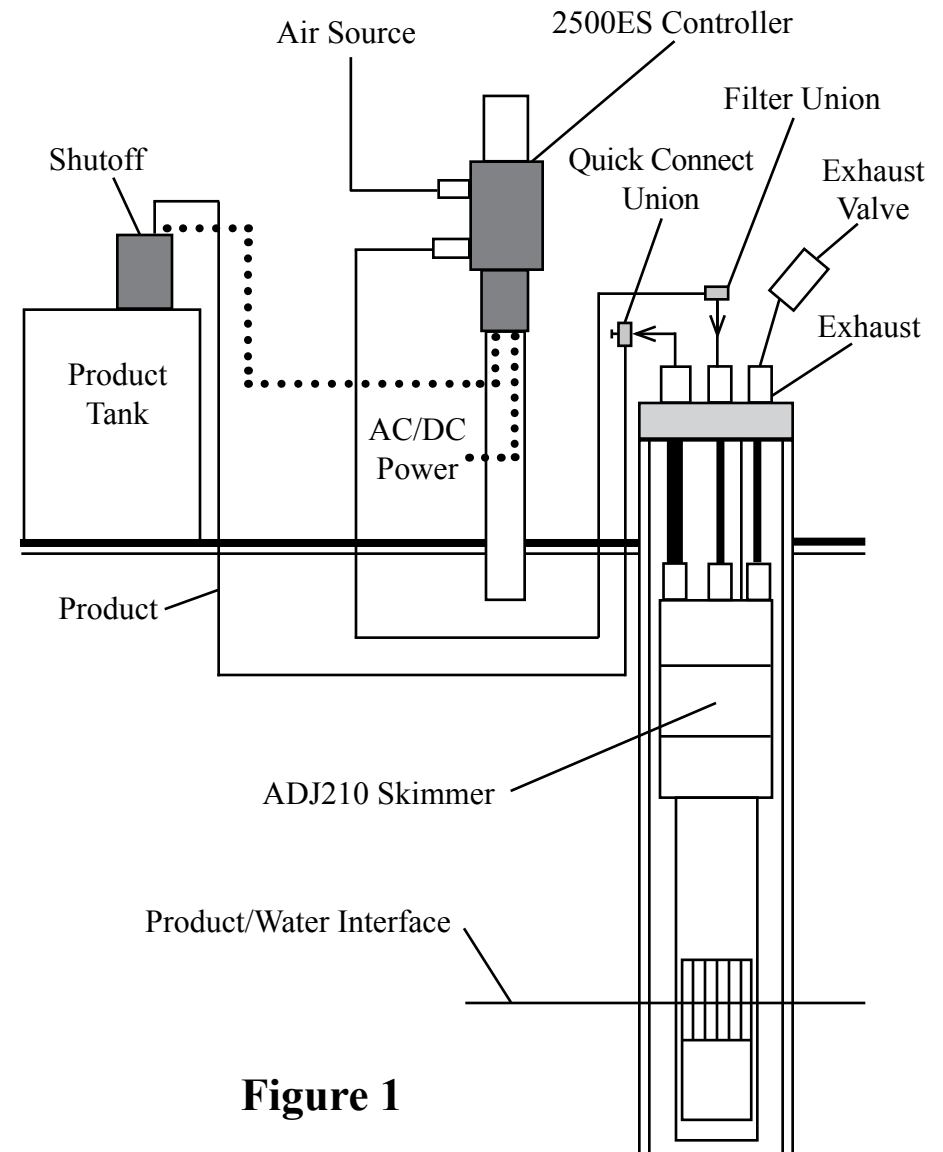
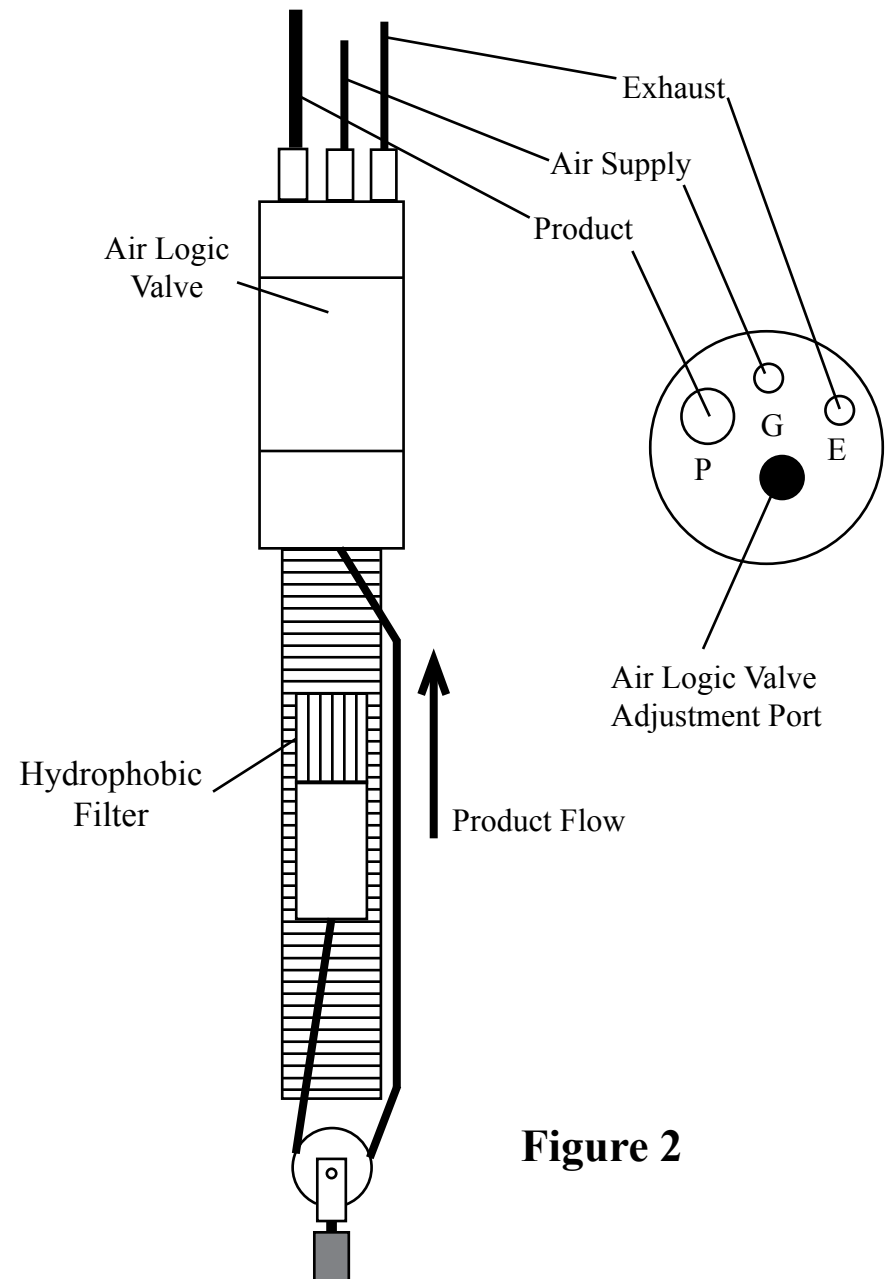

Figure 1
Figure 2
The system (Figure 1) relates to floating hydrocarbon recovery in wells two inches in diameter and larger. This system includes: an intrinsically safe ADJ210 pneumatic Smart Skimmer (Figure 2) which removes only the product to a sheen down to 200 feet deep; and a three function electronic Controller Single Pump Model 2500ES that operates the skimmer intermittently, records run time, and has a high level tank shutoff assembly.
STEP 7. Position the skimmer and well cap on the ground near the well. Cut a length of 1/4" OD air supply tubing to cover the distance from the top of the well down to water/product interface, plus 5 feet. **NOTE:** If the skimmer is over 70 feet deep, use 3/8" OD air supply tubing in stead of 1/4" OD tubing. Slide enough tubing through the well cap and attach the end of the tubing to the top of the skimmer tube fitting labeled "G" (Figure 2). If the product thickness is greater than 1 foot, position the center of the skimmer screen 1 foot below top of product. If the product thickness is less than 1 foot, position the center of the skimmer screen at the water/product interface.
STEP 8. Cut a length of 5/16" OD product tubing same length as the air supply line. Install 5/16" OD product tubing through the well cap tube fitting labeled "P" (Figure 2). Slide enough tubing through the well cap and attach the end of the tubing to the top of the skimmer tube fitting labeled "P". **CAUTION:** Do not kink the tubing.